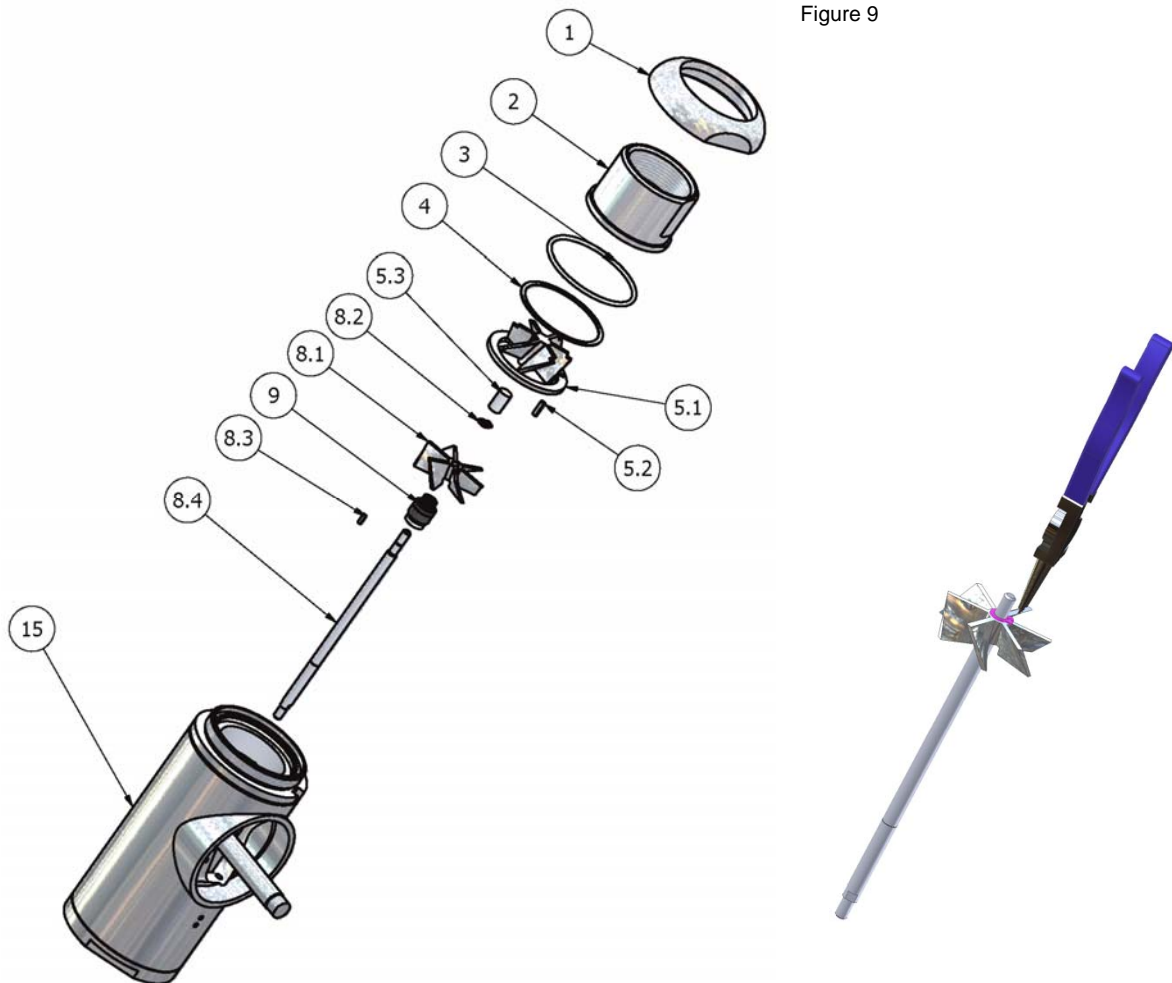

Figure 10
- a) When reversing the disassembly method, the use of the drive shaft insertion tool is necessary in order to avoid damaging pos. numbers 32.3 and 32.5 as well as pos. 32.4. This is illustrated in Figure 10.